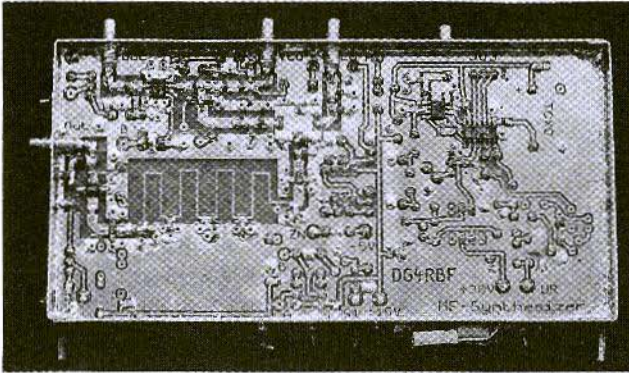

Fig.8:
- The SMC jacks are mounted in such a way that the internal conductor lies directly on the corresponding track of the board (Fig.8), which avoids any additional connection inductances.